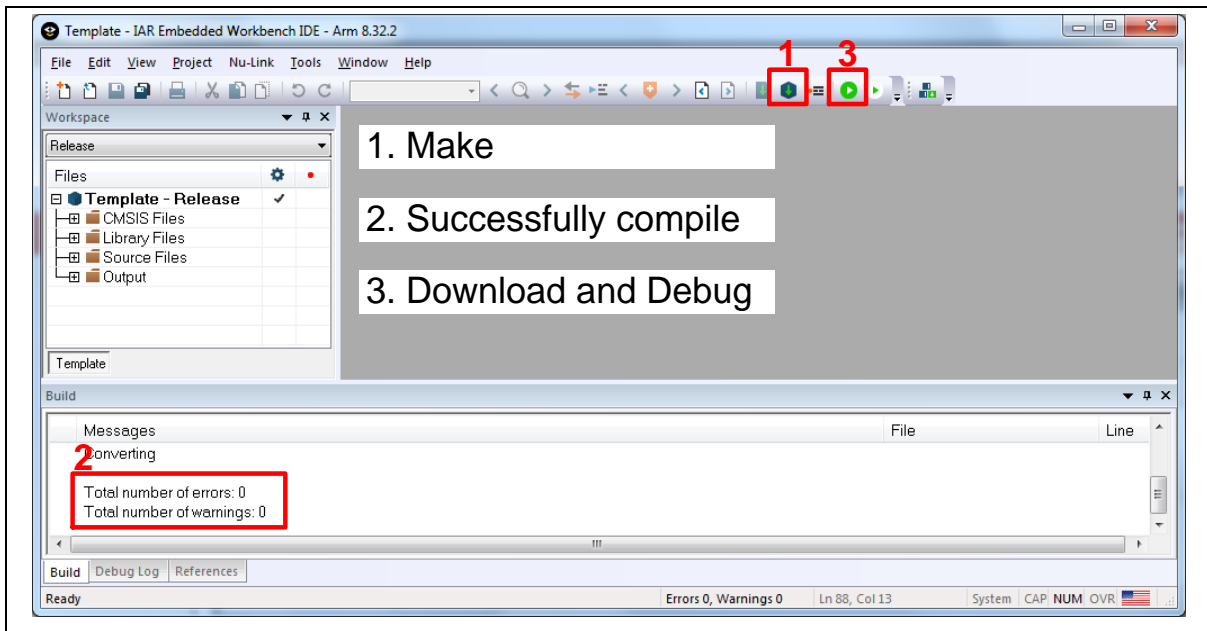

Figure 5-16 Compile and Download the Project
3. Make a target file as presented in Figure 5-16. After successfully compiling the project, download code to the Flash memory and enter debug mode.